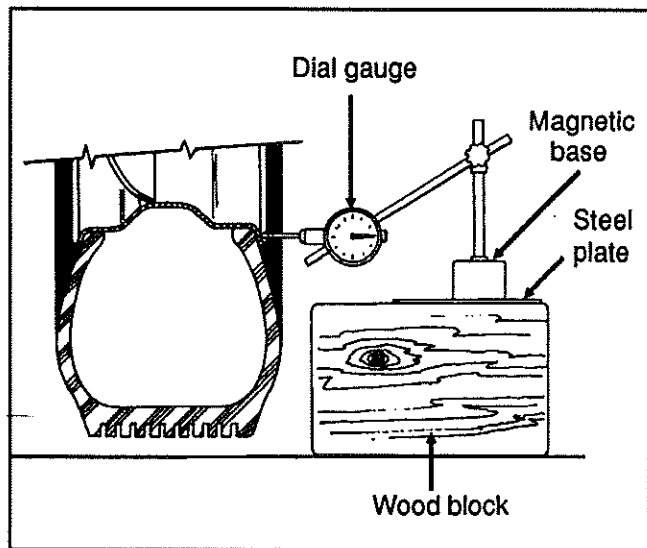

Fig. 3 - Suggested dial gauge installation
2. Check the rim for lateral runout. Install a dial gauge as shown in figure 3, then rotate the wheel one full turn. As the wheel turns, note any variation on the dial gauge.